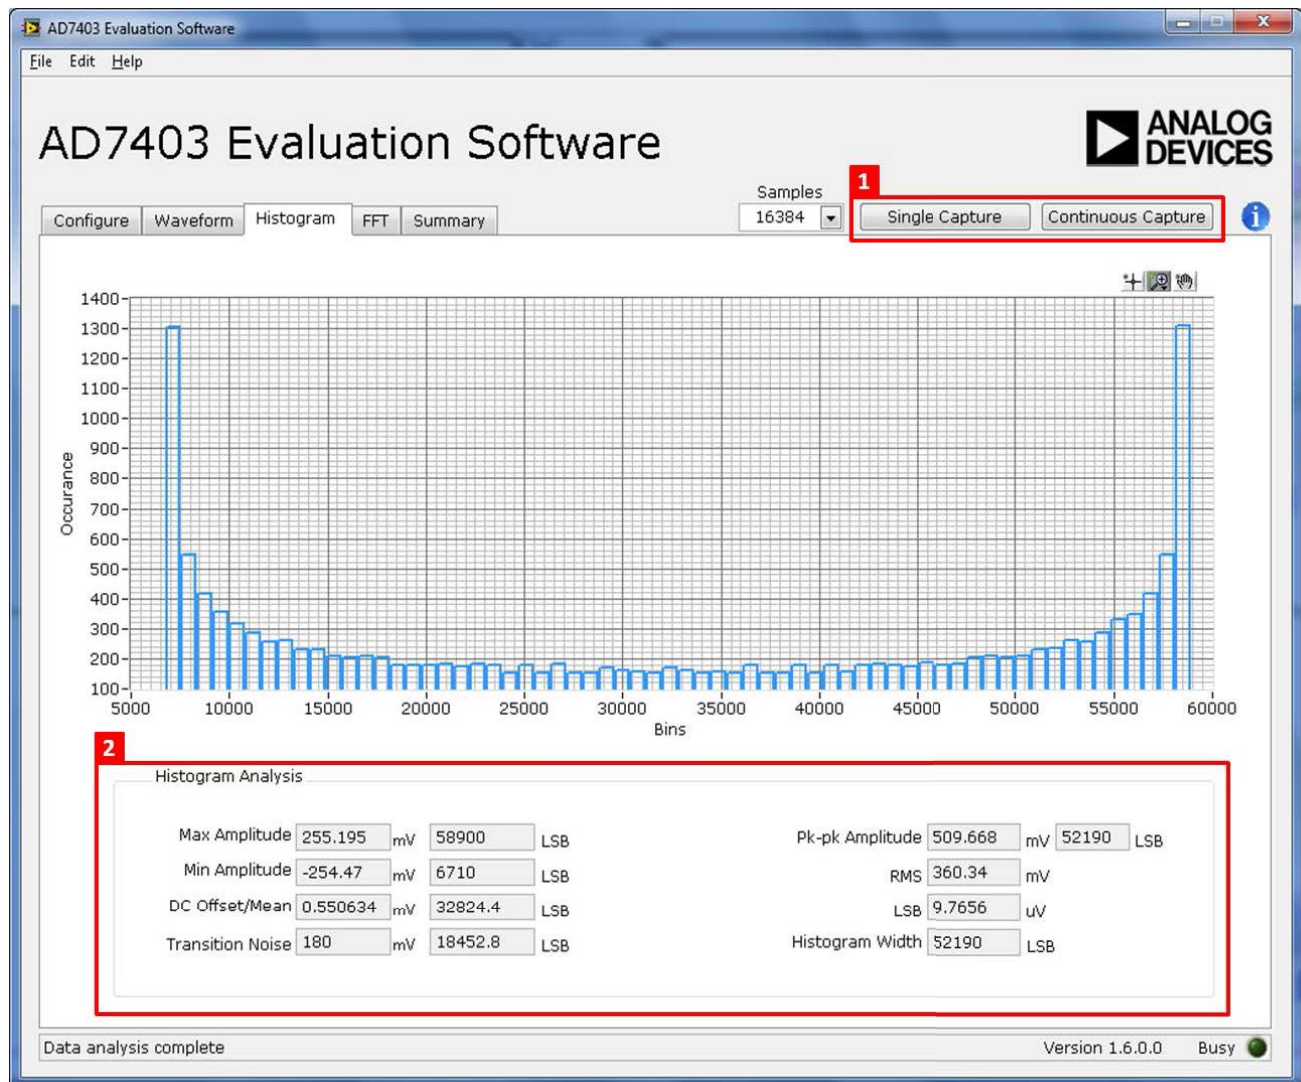

Figure 18. Histogram Capture Tab
The **Histogram** tab can be used to perform ac testing or, more commonly, dc testing. This tab shows the ADC code distribution of the input and computes the mean and standard deviation, which are displayed as **DC Offset/Mean** and **Transition Noise**, respectively, in the **Histogram Analysis** area (labeled 2 in Figure 18).
3. Click **Single Capture** or **Continuous Capture** (labeled 1 in Figure 18).
Raw data is then captured and passed to the PC for statistical computations, and various measured values are displayed in the **Histogram Analysis** area (labeled 2 in Figure 18).